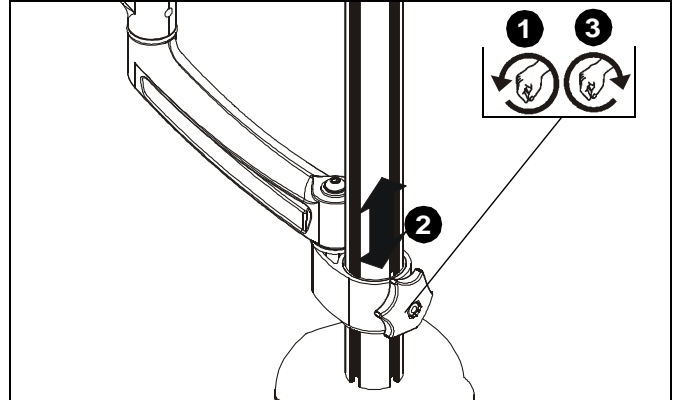

Figure 11
- Loosen column adjustment knob. (See Figure 11)
- Adjust height to desired level. (See Figure 11)
- Tighten column adjustment knob. (See Figure 11)